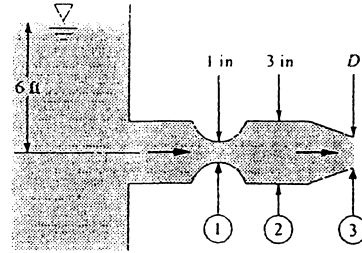

Fig. P3.172
3.172 The 35°C water flow of Fig. P3.172 discharges to sea-level standard atmosphere. Neglecting losses, for what nozzle diameter D will cavitation begin to occur? To avoid cavitation, should you increase or decrease D from this critical value?